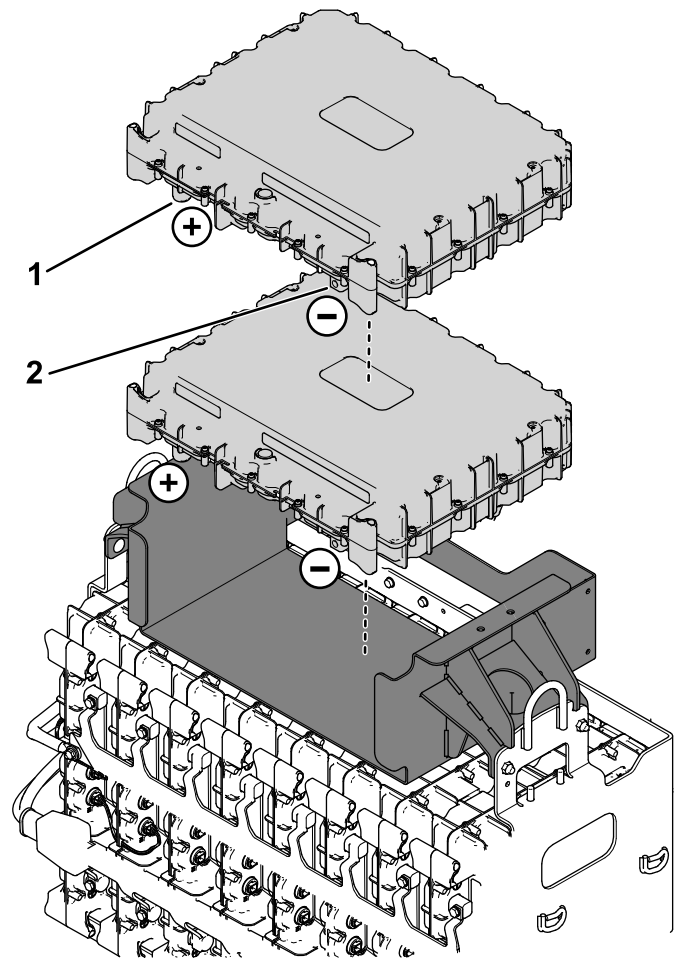

Figure 2
1. Place 2 batteries in the battery tray (Figure 2).